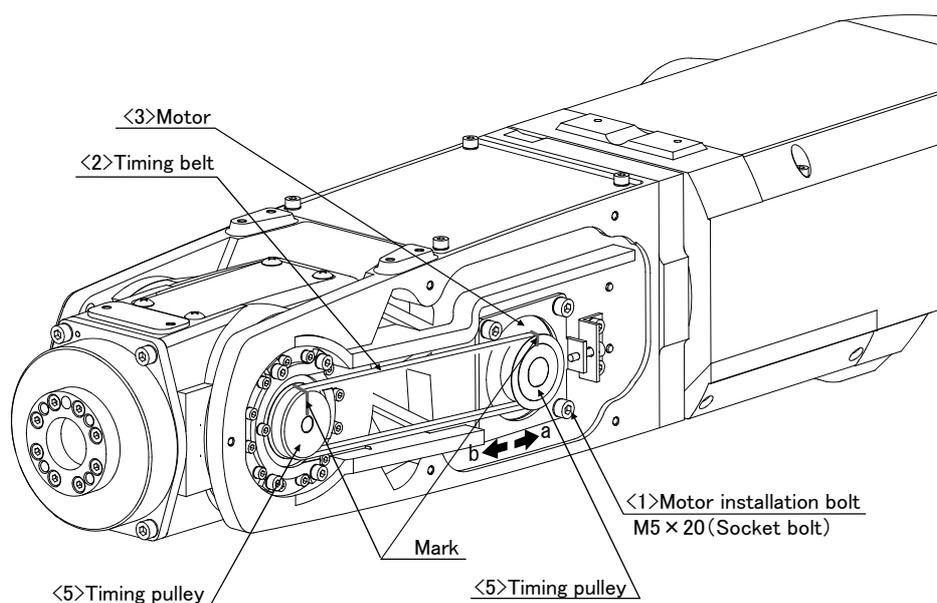

Fig.5-11 : Inspection, maintenance and replacement of J5-axis timing belt
- 3) Move the motor <3> in the directions of the arrows shown in Fig. 5-11, using the tension adjustment screw while checking the tension of the timing belt <2>. Lightly pushing the center of the belt with your finger (approximately 2 N), move the motor to the position where the belt flexes about 2.5 mm.
- 1) Fig. 5-11 shows the methods for inspecting, adjusting and replacing the timing belt.
- 5) Make marks on the timing belt <2> and timing pulleys <4> and <5> with a felt-tip pen as shown in Fig. 5-11 so that the engagement of the timing belt <2> and timing pulleys <4> and <5> does not deviate.